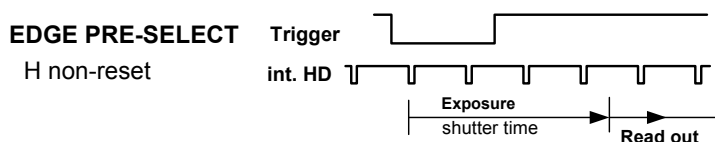
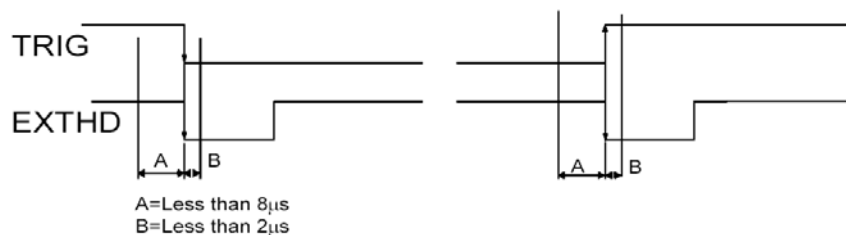

Fig. 13. H non -reset trigger
Fig. 14. External trigger and HD phase relation
These external triggering modes operate with H non-reset. In H non-reset, the exposure will be synchronized to the internal HD, and the exposure will start at the first HD after the negative going edge of the trigger. Refer to fig. 13. The exposure stops 0.5 H after the last HD pulse. To avoid the <1H exposure jitter caused by this delay, it is recommended to synchronize the external trigger to HD as shown in fig. 14.
This trigger mode operates in H non-reset mode. In H non-reset mode the exposure will start at the first internal HD after the trigger. The trigger input should be longer than or equal to 2 HD (102  $\mu$ sec.). The external trigger pulse initiates the capture, and the exposure time (accumulation time) is governed by the fixed shutter speed set up by the rear panel DIP-switches or via RS-232C control. The EEN pulse indicates the actual exposure time. The resulting video signal will start to be read out after the selected shutter time. The WEN pulse indicates the start of valid video signal. Refer to timing charts for details. A new trigger pulse must not be applied before the video read out has finished. If the camera is synchronized to an external HD signal, there are some requirements to the phase between the ext. HD and the Ext. trigger. The falling edge of the trigger should be less than 8  $\mu$ sec before the falling edge of the ext. HD and less than 2  $\mu$ sec after the falling edge of the ext. HD (see fig. 14.). Otherwise the jitter will be too high.
- The start of exposure will start synchronized to the internal H signal. The start may be shifted max 1H. To avoid this shift (1H jitter), synchronize the camera to an external HD and make sure that the trigger pulse aligns to the HD as shown in fig. 14.
This trigger mode where the length of the trigger pulse determines the exposure time operates in H non-reset mode. In H non-reset mode the trigger pulse and the HD signal are synchronized. The exposure will start at the first HD pulse after the falling edge of the external trigger signal. The exposure ends 0.5 H after the HD following the rising edge of the external trigger signal. The trigger pulse must be longer than  $>1H$  ( $51\mu\text{sec}$ ) and shorter than  $2000H$ . To avoid jitter the camera should be synchronized to an external HD. There are some requirements to the phase between the ext. HD and the Ext. trigger. The falling edge of the trigger should appear in the interval less than  $8\mu\text{sec}$  before the falling edge of the ext. HD and less than  $2\mu\text{sec}$  after the falling edge of the ext. HD and the rising edge off the trigger should be fall in the interval  $8\mu\text{sec}$  before the rising edge of the ext. HD and  $2\mu\text{sec}$  after rising edge of the ext. HD. (See figure 14.).
- The start of exposure will start synchronized to the internal H signal. The start may be shifted max  $1H$ . To avoid this shift ( $1H$  jitter), synchronize the camera to an external HD and make sure that the trigger pulse aligns to the HD as shown in fig. 14.
If the camera is synchronized to an external HD signal, there are some requirements to the phase between the ext. HD and the Ext. trigger. The falling edge of the trigger should be less than 8  $\mu$ sec before the falling edge of the ext. HD and less than 2  $\mu$ sec after the falling edge of the ext. HD (see fig. 14.). Otherwise the jitter will be too high.
This trigger mode operates in H non-reset mode. In H non-reset mode the trigger and HD is synchronized. The exposure will start at the first HD pulse after the falling edge of the external trigger signal. The exposure ends 0.5 H after the HD following the rising edge of the external trigger signal. The trigger pulse must be longer than  $>1H$ . To avoid jitter, the camera should be synchronized to an external HD. There are some requirements to the phase between the ext. HD and the Ext. trigger. The falling and rising edge off the trigger should be within  $8\ \mu\text{sec.}$  before the falling and rising edge of the ext. HD pulse and not later than  $2\ \mu\text{sec.}$  after the falling and rising edge of the HD pulse (see fig. 14.). The EEN pulse indicates the actual exposure time. The resulting video signal will first start to be read out after the input of an external VD signal. The readout delay should not be too long due to visible dark current noise generated in the CCD sensor. The WEN pulse indicates the start of valid video signal. Refer to timing charts for details. A new trigger pulse must not be applied before the video read out has finished.
The long time exposure is a continuous process where each external VD pulse will synchronize the camera, stop on exposure, start a new exposure and read out the previous accumulated signal. The exposure can be selected in intervals of complete vertical timing periods ( $=792H$ ). This long time exposure mode operates in H non-reset mode. In H non-reset mode the external VD signal and the internal HD signal are synchronized. The exposure will start at the first HD pulse after the falling edge of the external trigger signal. See figure 14. for the phase relationship between ext. HD and ext. VD pulses.